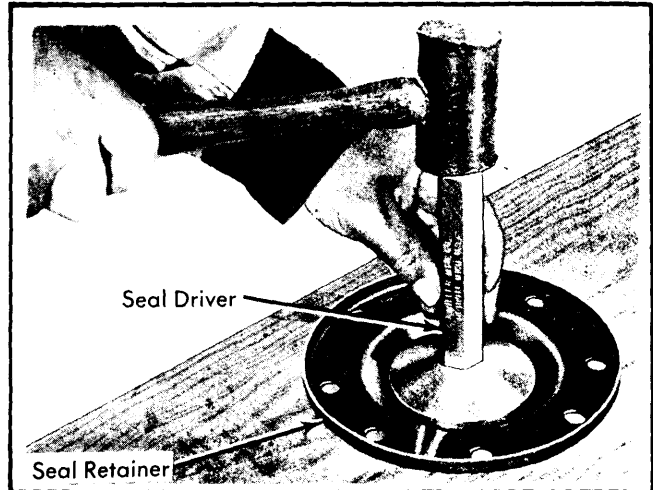

Fig. 4 Installing Drive Pinion Oil Seal In Retainer
4) Remove yoke. Lubricate pinion seal lip and coat outside of seal with a non-hardening sealer. Install seal in cover using a suitable driver. See Fig. 4. Install bearing cover and seal, using a new gasket. Install pinion yoke, washer and nut. Hold yoke and tighten nut to specification. Install cotter key. Do not back off nut to align cotter key hole. Place original pinion depth shims over studs in carrier. Position pinion bearing cage and drive pinion over stud and tap into position using a soft hammer. Install lock washers and nuts. Tighten nuts to specification. If a new ring gear and pinion are being installed, proceed to Pinion Depth Adjustment.